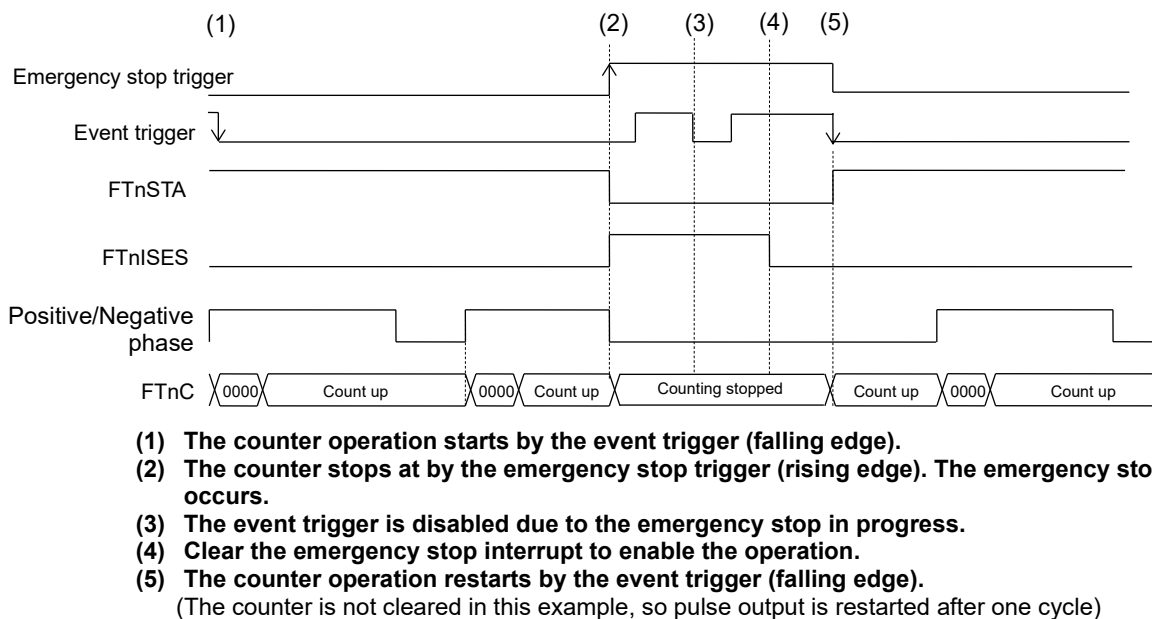

Figure 9-17 Operation Timing Diagram at Emergency Stop
Figure 9-17 shows the operation timing at emergency stop.
Once the emergency stop occurs, the counter is stopped after one clock of the timer clock, and the FTnISES bit of the FTnINTS register becomes "1" (see (2) in Figure 9-17).
When the FTnISES bit is "1", even if the event trigger of counter start is generated, it is not accepted. If the event trigger for the counter start is generated after the FTnISES bit is cleared (see (4) in Figure 9-17), counting up is restarted (see (5) in Figure 9-17).